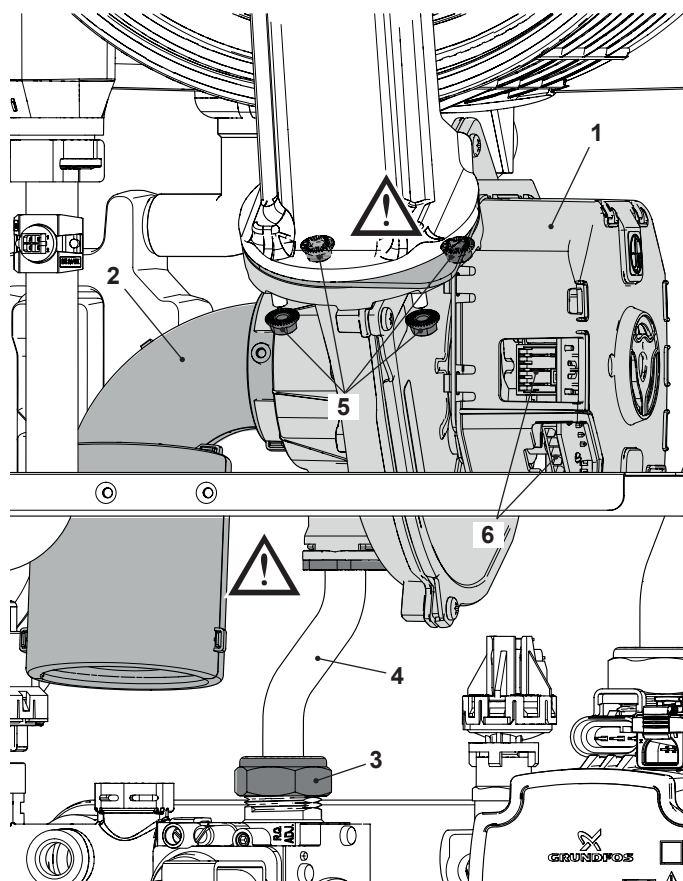

Figure 16.2
- 3 Unscrew the gas connector "3" and remove the gas pipe "4" (Figure 16.2).
Before reassembling ensure the fan gasket (Figure 16.2) is correctly mounted.